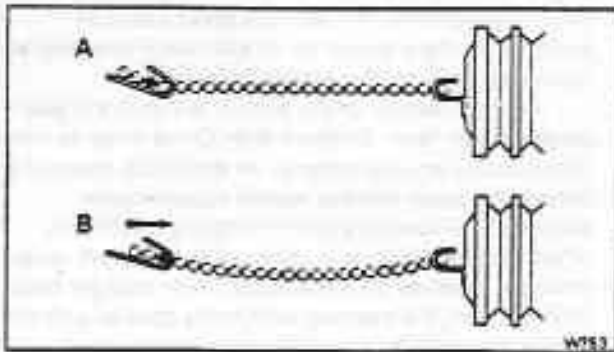

Fig. MB-2 Actuator bellows chain adjustment
9. Open and close the throttle to ensure that the operation of the throttle linkage is not obstructed. Then connect the actuator bellows to throttle linkage chain (see fig. MB-2). Adjust the chain by pulling it taut across the gap between the throttle linkage connection and bellows actuator connection and then release it by one ball.